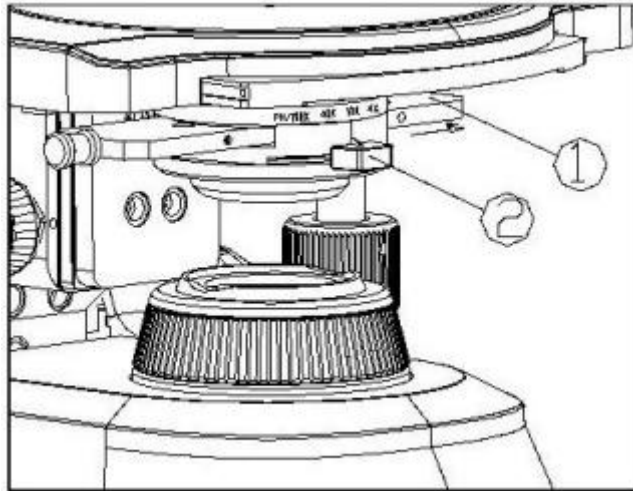

Figure 10
1. Keep the phase contrast flapper ① face up (with the side labeled facing upward) and insert it from left to right into the condenser flapper socket, following the direction indicated by the arrow (see Fig. 10).